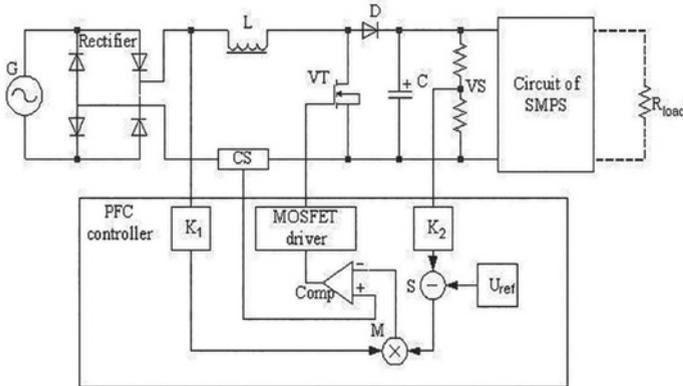

Figure 5: Simplified electronic power circuit of active PFC
The circuit of an active PFC as part of a boost topology is shown in Figure 5. It consists of a diode rectifier, choke coil (L), current sensor (CS) in series with the negative bus, an active element (VT), diode (Do) required for the boost, output capacitor (C), resistive voltage divider as a voltage sensor (VS) of the output voltage, and a PFC controller.
In some instances, the standard structure of the PFC controller is as shown in Figure 5. However, here it is important to protect the PFC controller by not allowing any current to flow through the choke coil. This is ensured by the following: the rectified voltage flows into the multiplier (M) through the attenuator K_1 and at the same time supports the constant value of the output voltage. Then, the voltage divider's output voltage flows into M through the subtractor (S) and attenuator K_2 . The result of the multiplying is fed into the inverting input of a comparator (Comp), with current going into its non-inverting input. The result of the comparison is handled by the MOSFET driver unit, which then provides the driving PWM signal for the MOSFET. It will also work for other types of transistors, but in our case this is a MOSFET.